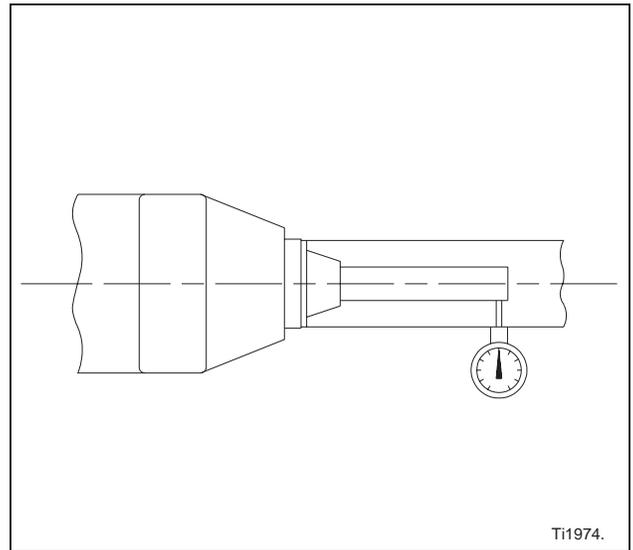
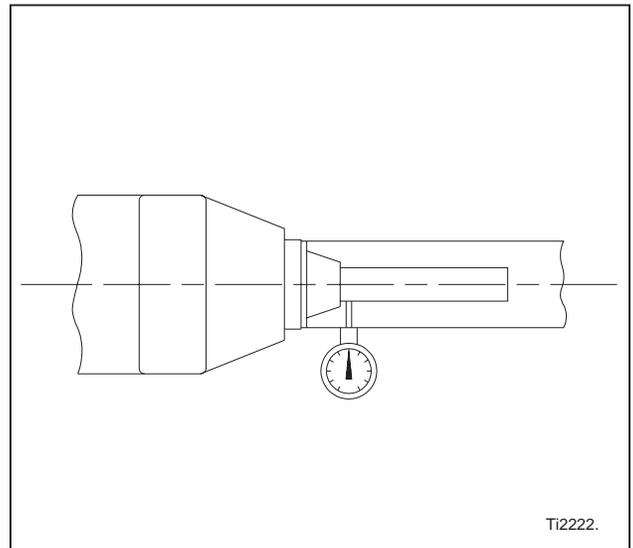

Figure 4.84 - Horizontal Alignment (Obtaining Value "C")
Figure 4.85 - Horizontal Alignment (Obtaining Value "D")
19. Position the indicator to touch the diameter of the test arbor at the outer end. Refer to Figure 4.84 .
- d) Without moving the indicator or rotating the headstock spindle, reset the indicator dial to zero (0).
21. Move the machine carriage (Z axis) toward the headstock six (6) inches [152.4 mm] to position the indicator as shown in Figure 4.85 .